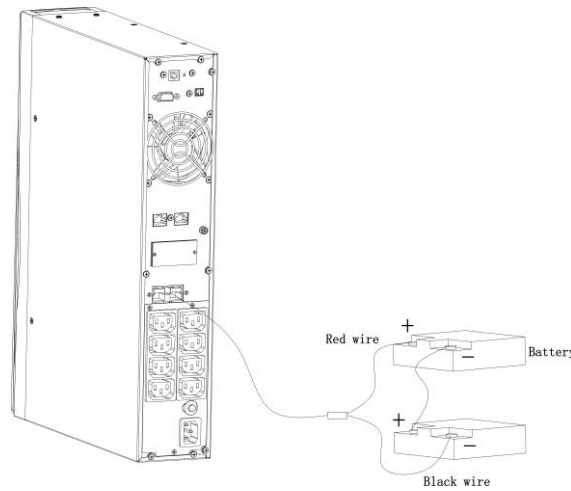

Figure 9 Long backup external battery connection
③ If an ups is needed to be placed in the middle, the assembly of plastic base is similar (Figure 9).The difference is that two 1U plastic base extended boards are added in the middle.(as the following shows)